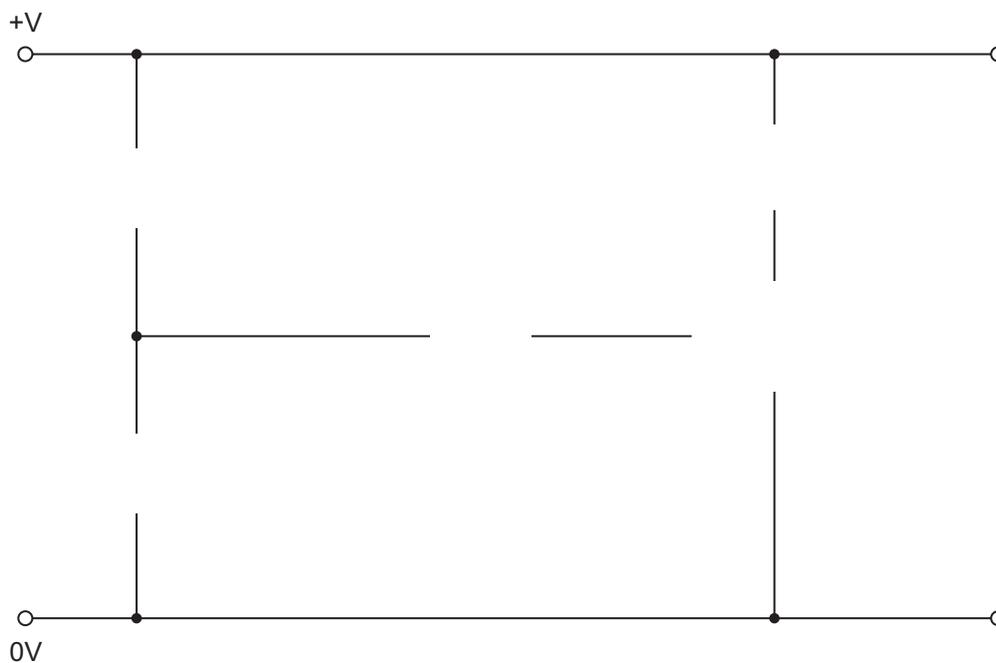

Fig. 4
- (b) Insert **all five** symbols, shown in **Table 2**, into the part completed circuit diagram (**Fig. 4**) illustrated below. When the diagram is complete the bulb should switch on when there is a change in temperature.